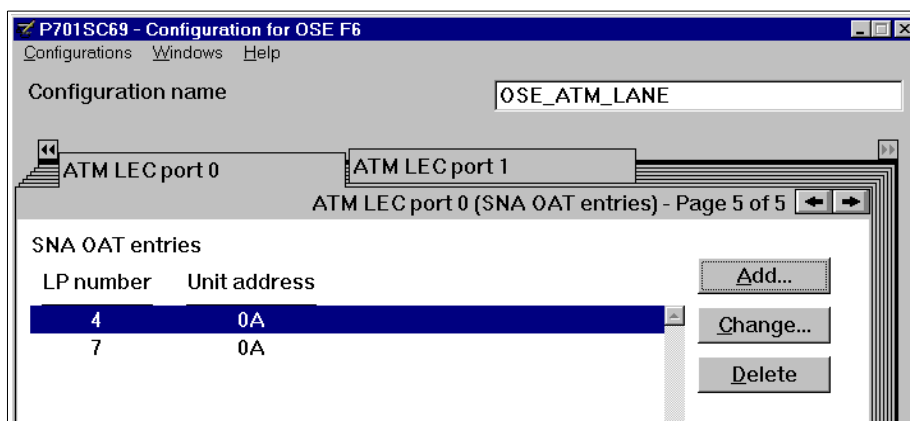

Figure 9-10 ATM LEC port 0 SNA OAT entries - page 5 of 5
15. After you have filled in all desired entries, click the right arrow in the upper right corner of the notebook to go to page 5. (Figure 9-10 shows an example of the filled-in SNA OAT for logical port 0.)